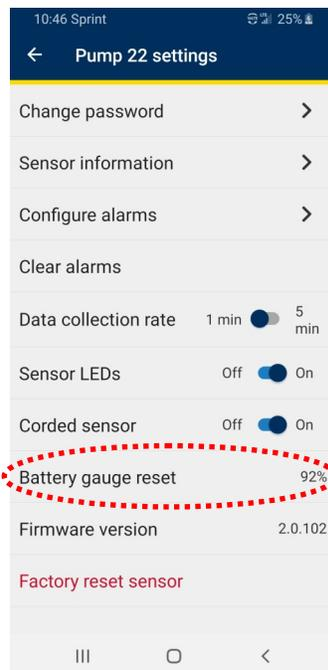

Figure 39
3. Select **Battery gauge reset** (see figure 39).